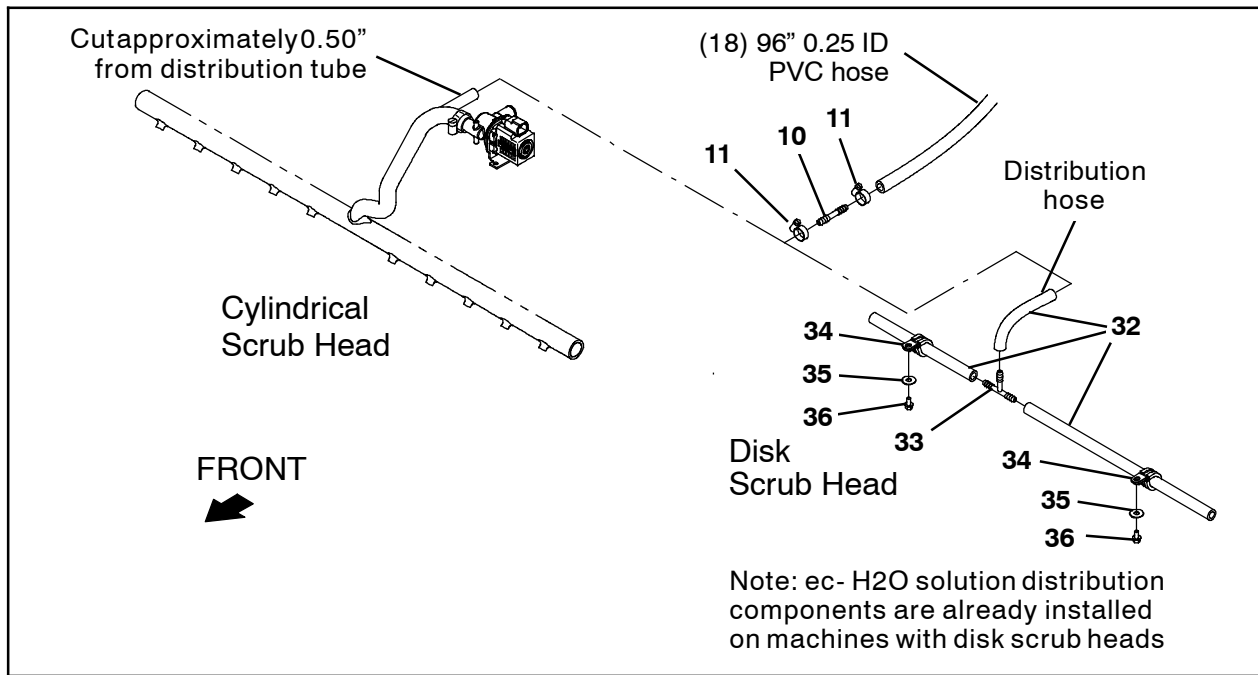

FIG. 7
25. **Machines with disk scrub heads only:** Insert the barbed plastic straight fitting (10) into the distribution hose and use a hose clamp (11) to secure the straight fitting inside the distribution hose. (Fig. 7)
26. **Machines with disk scrub heads only:** Use a hose clamp (11) to connect the 96" 0.25 ID PVC hose (18) to the straight fitting (10) installed in the distribution hose. (Fig. 7)
27. **Machines with cylindrical scrub heads only:** Cut approximately 0.50" from the tip of the distribution tube. (Fig. 7)
28. **Machines with cylindrical scrub heads only:** Insert the barbed plastic straight fitting (10) into the distribution tube and use a hose clamp (11) to secure the straight fitting inside the distribution tube. (Fig. 7)
29. **Machines with cylindrical scrub heads only:** Use a hose clamp (11) to connect the 96" 0.25 ID PVC hose (18) to the straight fitting (510) installed in the distribution tube. (Fig. 7)